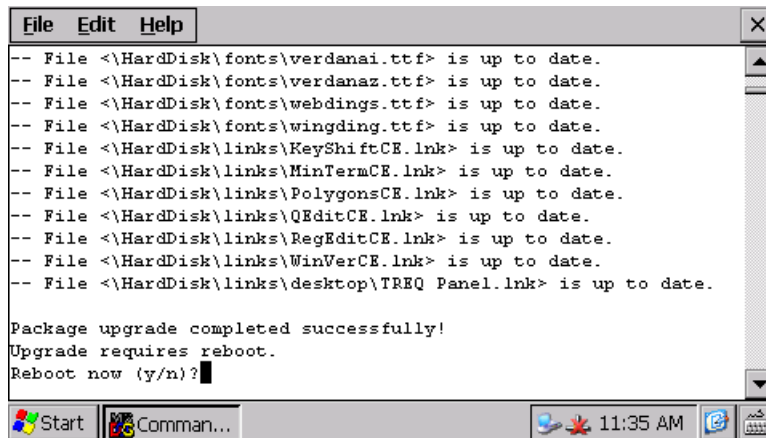

Figure 52
6. Once complete, UpgradeCE will indicate success and ask for confirmation to reboot. (See Figure 52, “System Package Upgrade Complete.”) Answer **y** or **n**. The installation is not complete and UpgradeCE is disabled for further upgrades until after a reboot.